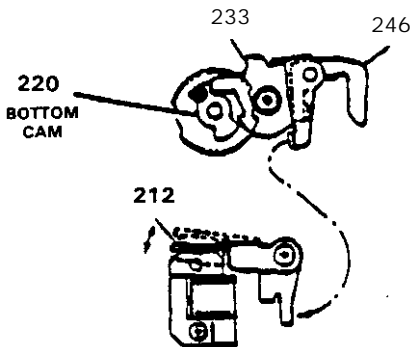

FIGURE 3-7. PROGRAM CHANGE MODE
2. Pause Mode (Radio Mode - Power OFF With Cassette Loaded)-In the pause mode, the FF/REW and Program Solenoids (314, 315, & 316) and the Motor are all de-energized. As the Mode Plate (209), Power Arm (208), Power Plate (211) move to STOP position, the Head Plate (203) also moves backward to the STOP position. All movement then comes to a stop.
3. Program Change Mode - When the Program switch is pushed, the Program Solenoid (314) is de-energized momentarily, and the Chip Arm (212) is released. The Reverse Trigger (233) and the Reverse Trigger Arm (245) are positioned to unlock the Reverse Gear (220). The Reverse Gear rotates to move the Reverse Plate (227), (see Figure 3-7 & 3-8).